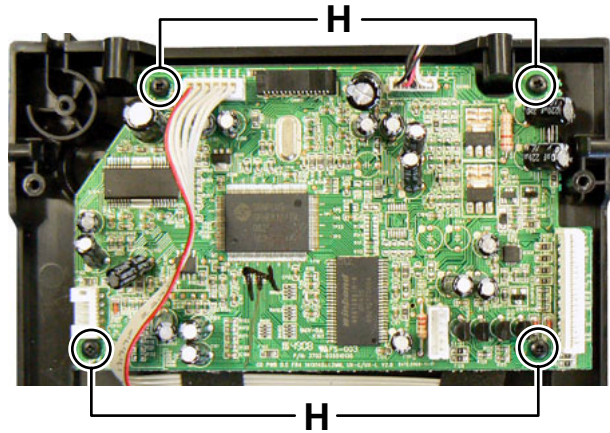

Fig. 12
3.1.7 Removing the CD board (See Fig.12)